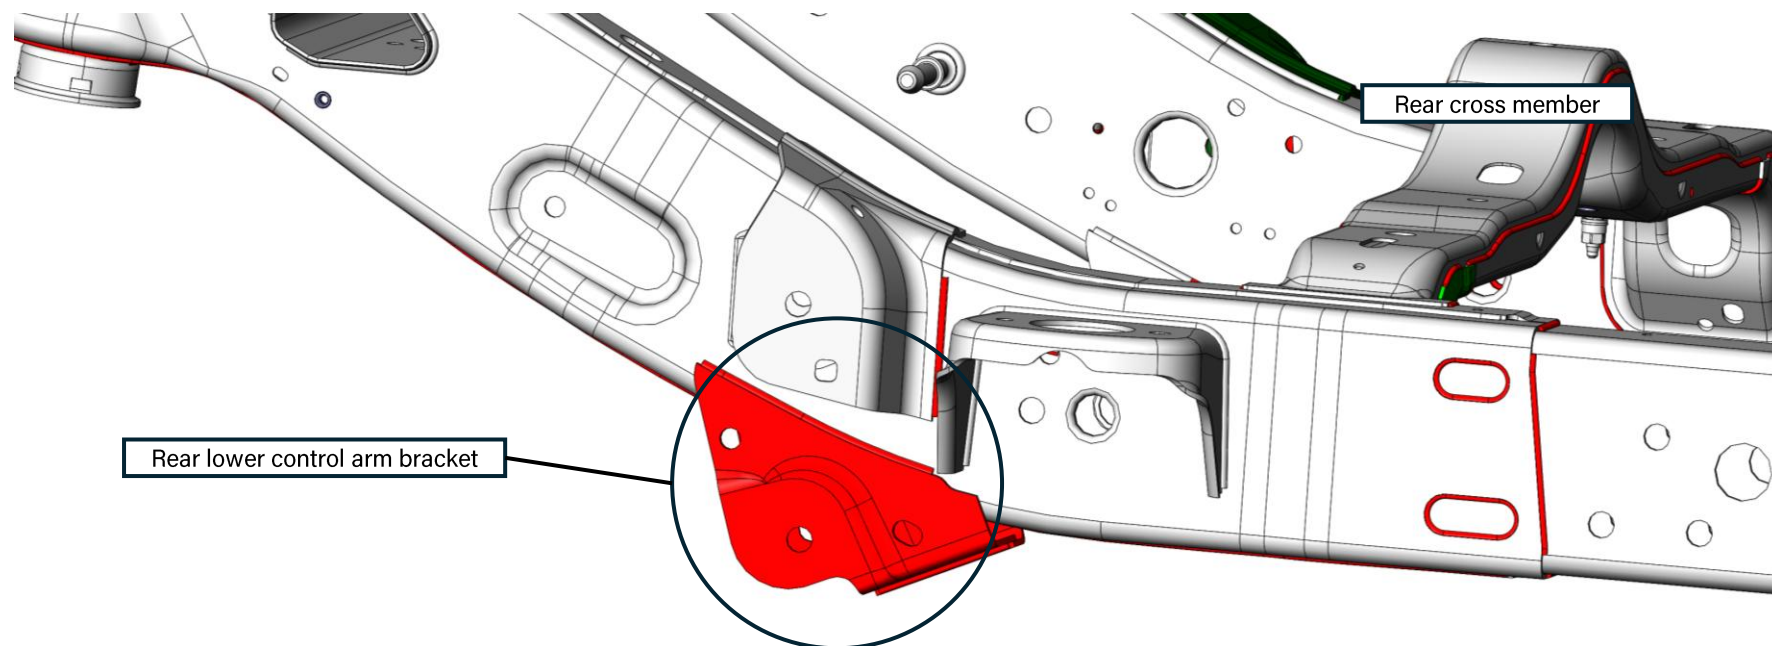

Figure 13: CAD model of original rear lower control arm bracket (passenger side)
8. Remove both rear lower control arms and begin cutting off the lower control arm brackets from the frame. It is recommended to cut the bracket just below the weld and then grind the weld flat. Complete this set for both sides. See Figure 13 for the rear lower control arm bracket on the passenger side of the vehicle (highlighted in red).